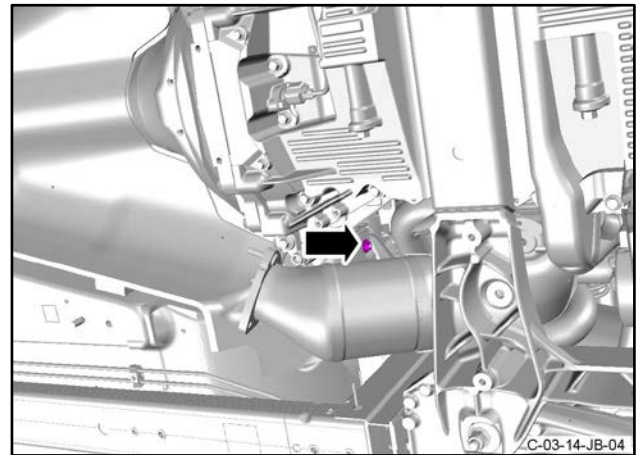

Figure 42
84. Install the nut that attaches the heat shield for the front floor to the body (refer to Figure 42). Torque the nut to 9 Nm.